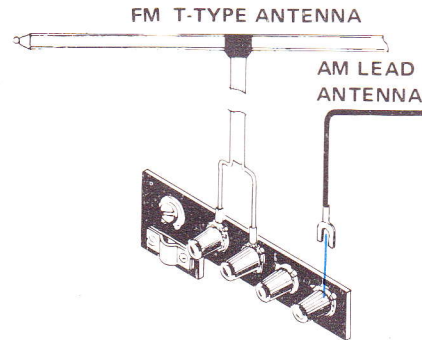

Fig. 5
- If the receiver is to be located in a wooden building and stations are nearby, use the T-type antenna which comes with the SX-424. As shown in Fig. 5, connect the feeder wires of the antenna to the FM antenna terminals. Stretch out the antenna proper and secure it to the ceiling or a wall in such a manner that reception is optimum, as determined by listening to the station to be received. Refer to FM RECEPTION on page 8.